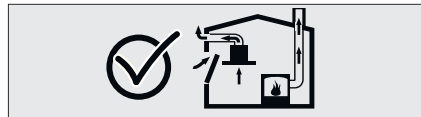

Fig. 2
- Therefore, adequate fresh air ingress must always be ensured.Fig. 2